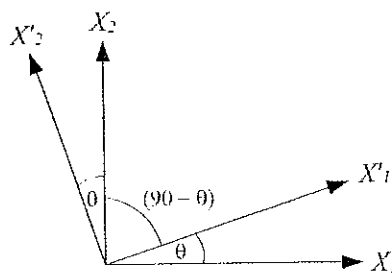

Figure Q6b
- Q6(B) (a) Derive an expression for the coordinate transformation matrix for  $X_i = (X_1, X_2, X_3)$  to  $X'_i = (X'_1, X'_2, X'_3)$  coordinate system (see Figure Q6b). (6 marks)